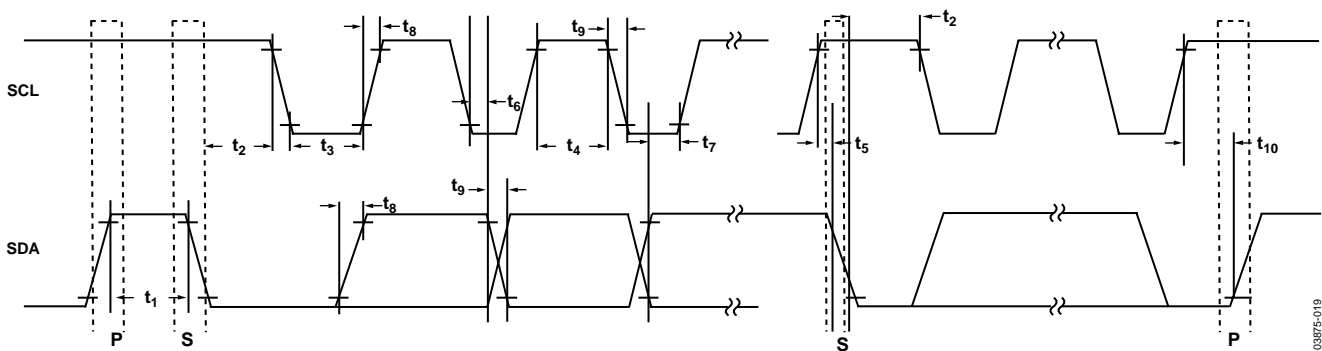
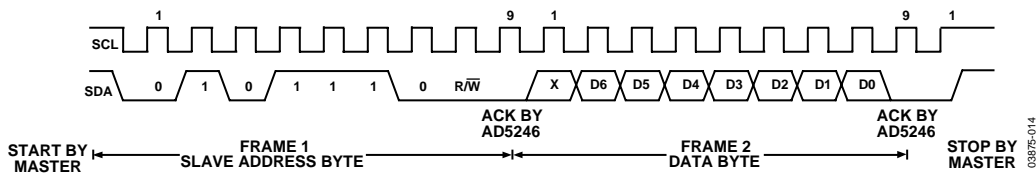
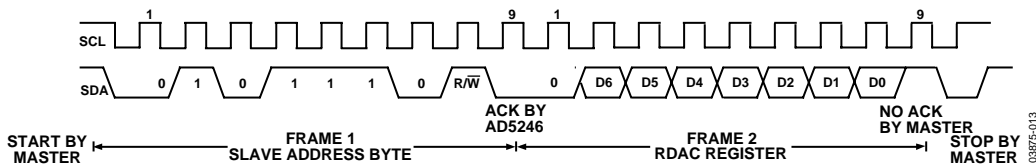

Figure 26. I²C Interface, Detailed Timing Diagram
Figure 27. Writing to the RDAC Register
Figure 28. Reading from the RDAC Register
³ See timing diagrams (Figure 26, Figure 27, and Figure 28) for locations of measured values.
1. The master initiates data transfer by establishing a START condition, which is when a high-to-low transition on the SDA line occurs while SCL is high (see Figure 27). The following byte is the slave address byte, which consists of the 7-bit slave address followed by an R/W bit (this bit determines whether data will be read from or written to the slave device).
3. In read mode, after acknowledgement of the slave address byte, data is received over the serial bus in sequences of nine clock pulses (a slight difference from the write mode where eight data bits are followed by an acknowledge bit). Similarly, the transitions on the SDA line must occur during the low period of SCL and remain stable during the high period of SCL (see Figure 28).
4. When all data bits have been read or written, a STOP condition is established by the master. A STOP condition is defined as a low-to-high transition on the SDA line while SCL is high. In write mode, the master pulls the SDA line high during the tenth clock pulse to establish a STOP condition (see Figure 27). In read mode, the master issues a No Acknowledge for the ninth clock pulse (that is, the SDA line remains high). The master then brings the SDA line low before the tenth clock pulse, which goes high to establish a STOP condition (see Figure 28).